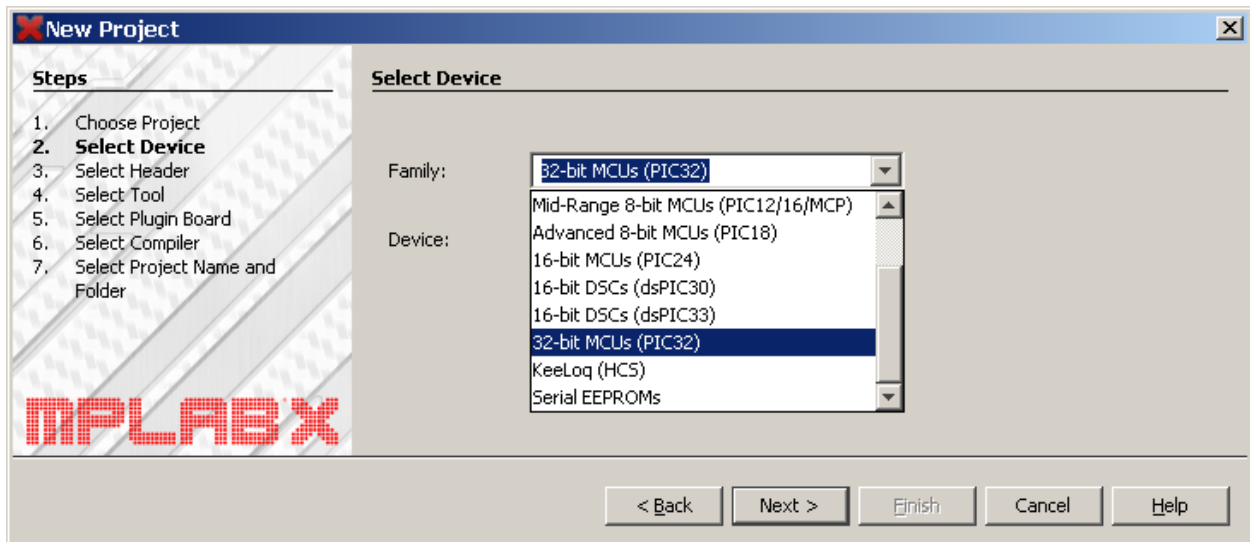
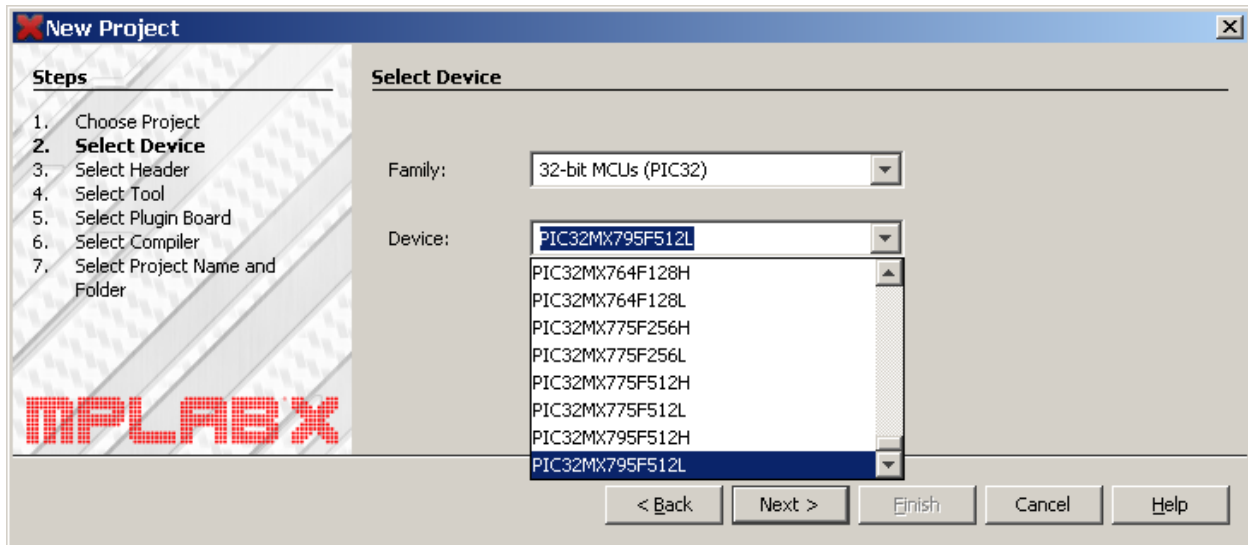
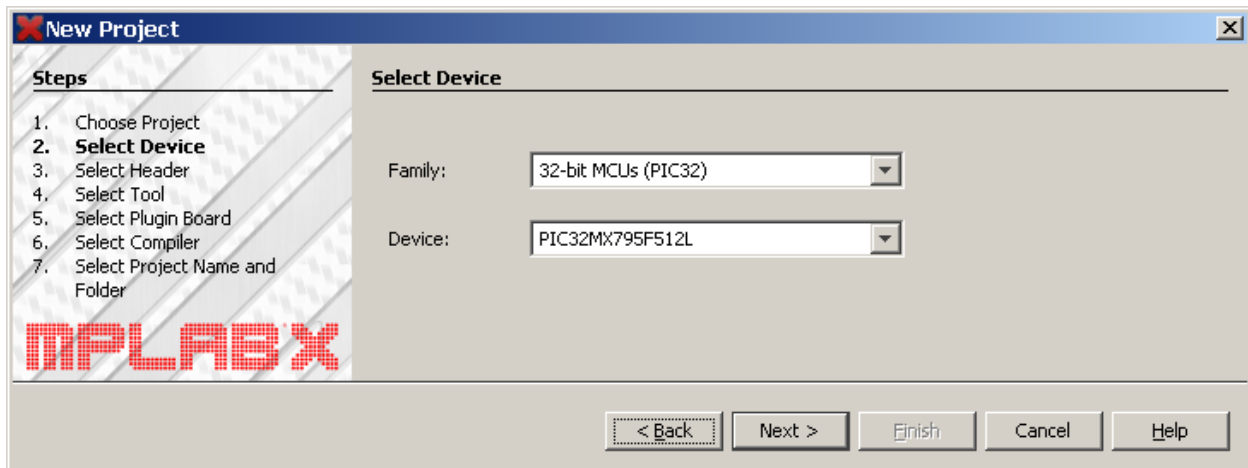

Figure 5. Step 2a of creating a new MPLAB X project
Figure 6. Step 2b of creating a new MPLAB X project
Figure 7. Step 2 after making device selection for the Cerebot MX7cK processor board
- E. After making the selections for step 1, you will need to select the processor that is on the Cerebot MX7cK processor board. Step 2 is divided into two parts for simplicity: Figure 5 shows the selection of the device family as *32-bit MCUs (PIC32)*. Figure 6 shows that the processor device we are using is the *PIC32MX795F512L*. Figure 7 shows the step 2 window after selecting the Cerebot MX7cK processor board. Click on the **Next>** control to continue to step 4. (Note that we skip step 3.)